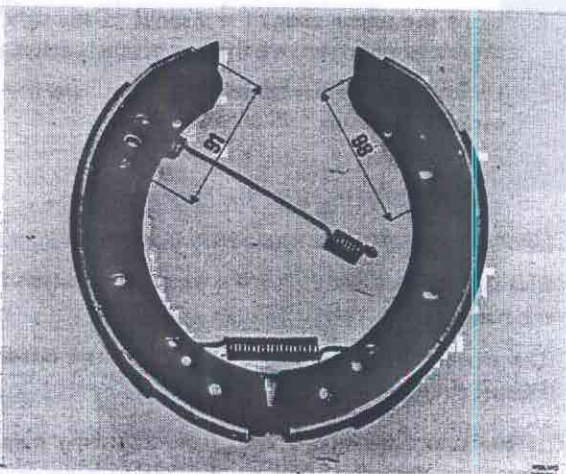

Fig. 51-11. Brake shoes
1. Hook the lower return spring on both the shoes and the upper on one of the shoes, see Fig. 51-11. Note that the lining on the primary shoe (the leading) is displaced downwards.